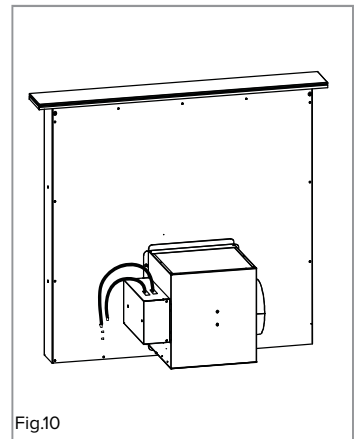

Fig.10
10) Connect the power cables between the motor housing and the extractor body (Fig.10)